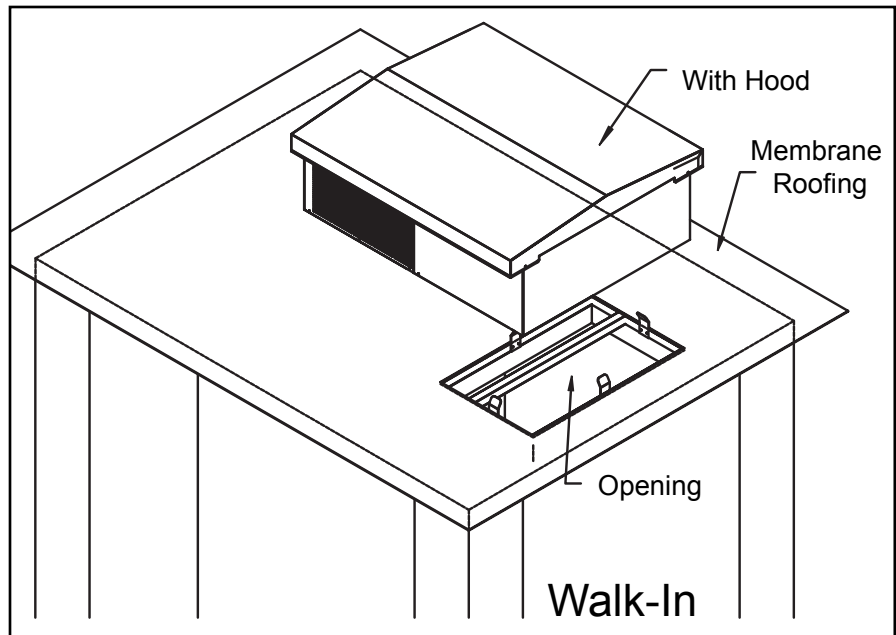

Figure 3
4. Set the Refrigeration System over the opening in the curb. Remove the enclosure from the condensing unit portion of the system and drill two 9/16" holes through the condensing unit base plate, membrane roof material and the foamed ceiling section. The holes should be located on opposite sides of the unit. Insert one 1/2" threaded nylon rod into each hole. Apply silicone sealant around each nylon rod and hole and place one washer and nut on the condensing unit end of each threaded nylon rod. Place a second washer and nut on the inside of the walk-in and tighten securely. Replace the enclosure and attach the outdoor hood with the drive screws provided. Refer to Figure 3. The nylon rods, washers, and nuts are provided.